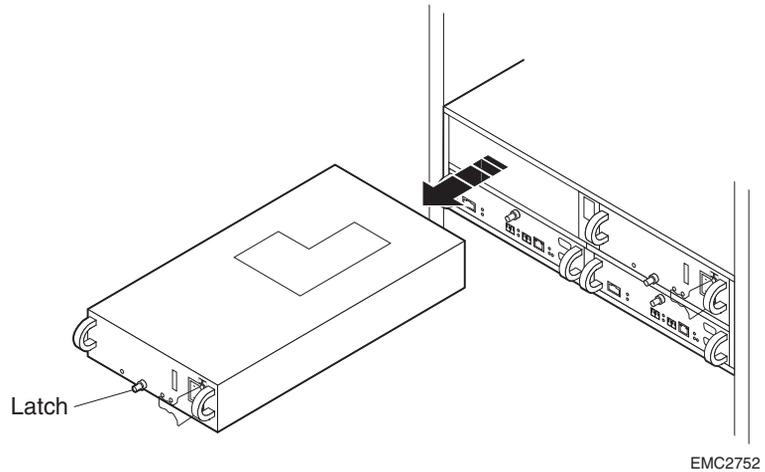

Figure 3-15 Removing a Power/Cooling Module (ac System Shown)
2. Turn the latch counterclockwise to release the module, and then remove it as shown in Figure 3-15.